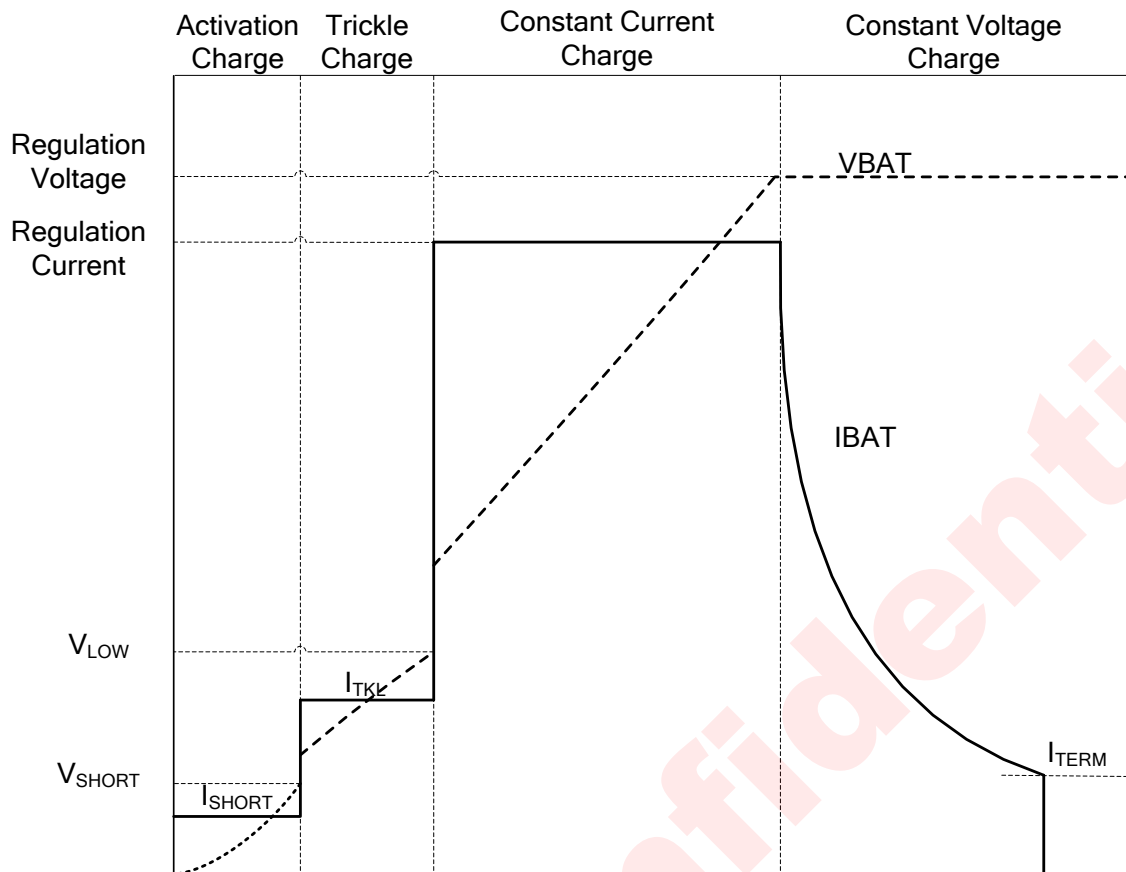

Figure 17 Typical Charging Profile of AW3215A/6
Once a good battery with voltage below the recharge threshold has been inserted and VBUS is among the normal range, the charging operation begins. During charging, the chip monitors VBUS voltage, charge current, constant regulation voltage and device junction temperature through four loops respectively. In the process of charging, one loop plays the main role. Figure 17 is a schematic diagram of AW3215A/6 charging process, which is divided into four stages: activation - trickle- constant current (CC) -constant voltage (CV). If NTC pin is connected to ground directly or via a 10k Ω resistor, after charging enters CV stage and a termination current is detected, charging stops. If the NTC pin is floated, charging would not stop immediately under the same condition, but send an interrupt signal to the system, offering whom a choice to determine whether to stop charging or not. If the system chooses to not stop it, AW3215A/6 would terminate charging automatically after the internal CV-timer(4h typ.) times up.
Charge process would be in activation charge if battery voltage is below the V_{SHORT} threshold (2.4V typical). And the IC applies a short-circuit current, I_{SHORT} (50mA typical), to the battery then. When the battery voltage is above V_{SHORT} and below V_{LOW} (2.85V typical), the charge current increases to 200mA of I_{TKL} . And while battery voltage reaches V_{LOW} , the charge current ramps up to fast charge current, I_{CHARGE} , until battery voltage rises to V_{OREG} . The slew rate for fast charge current is controlled to minimize the current and voltage over-shoot. Once the battery voltage reaches the regulation voltage, V_{OREG} , the charge current is tapered down as shown in Figure 17.